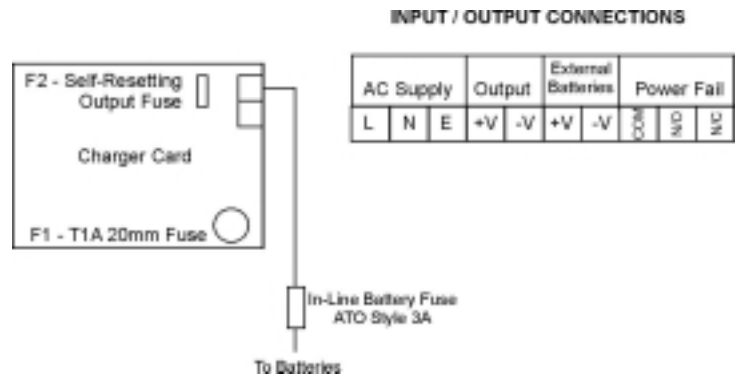

Figure 1. Electrical Connections
Connection for this unit are detailed in Figure 1. Mains power connections should be made with 3 core 0.75mm2 mains rated cable.
2. These units feature a "Power Fail" output to indicate, to remote equipment, when the mains voltage is no longer available and that the battery supply is now being used. Volt-free change over contacts provide a signal (see figure 1)